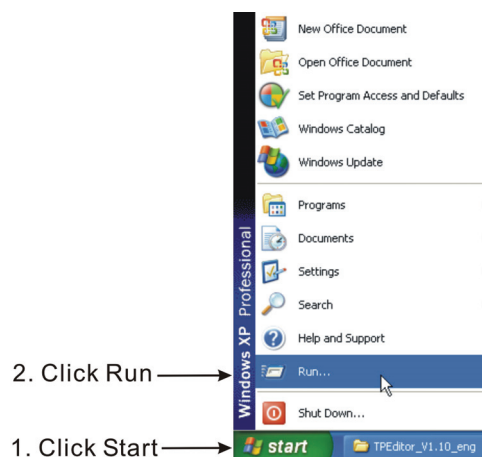

Figure 1-1
- Click **"Start" > "Run"** (Figure 1-1).